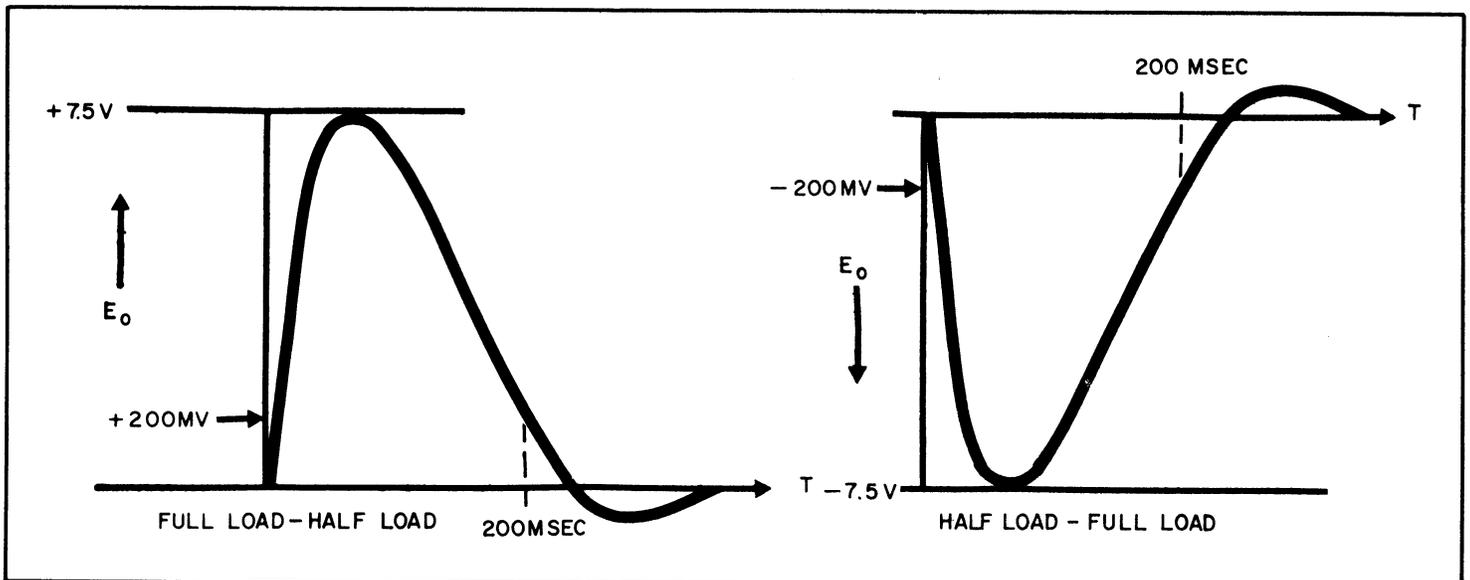

Figure 5-5. Transient Recovery Time, Waveform
- Oscilloscope display should be as shown in Figure 5-5.